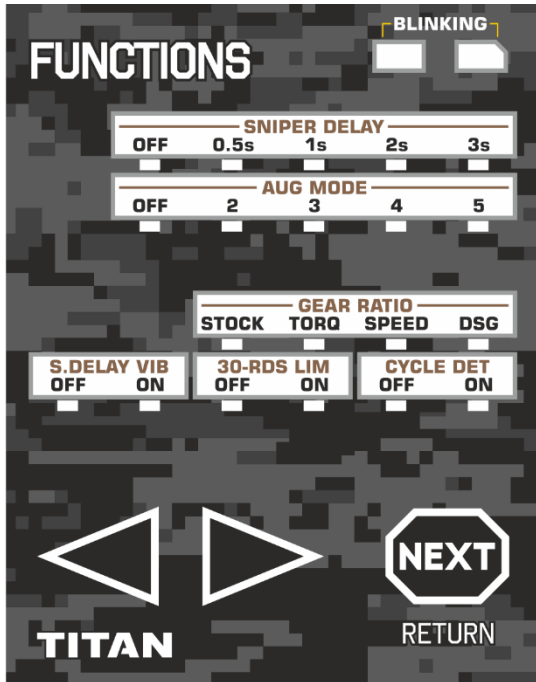

Fig.4
- **FUNCTIONS** – display with advanced functions such as: SNIPER DELAY, AUG MODE, GEAR RATIO, S.DELAY VIB, 30-RDS LIM and CYCLE DET (Fig.4),
- When the icons **A** and **B** are blinking, the **FUNCTIONS display** is activated. Check settings only on the FUNCTIONS display's cover of the TPC (Fig.4).